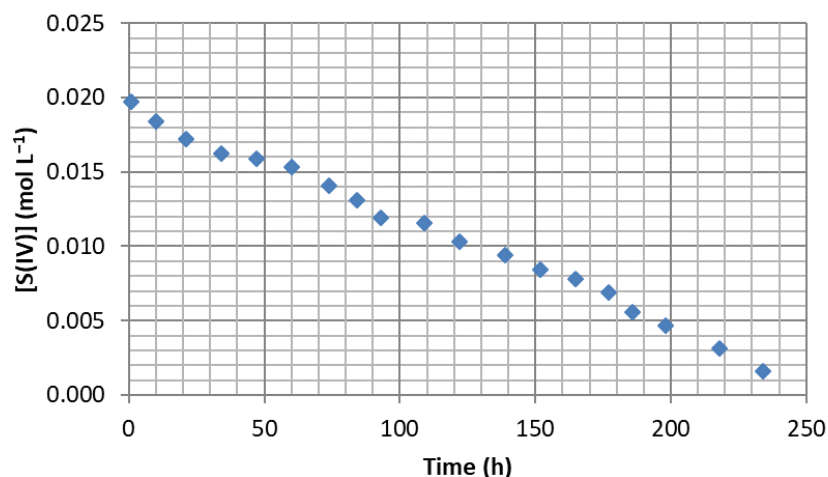

Figure 1: $[\text{S(IV)}]$ as a function of time for the fructose - glycine - sodium metabisulphite S(IV) reaction
The first experiment (A) was carried out by adding $n_{\text{Fru,A},0} = 1 \text{ mol}$ of fructose, $n_{\text{Gly,A},0} = 0.5 \text{ mol}$ of glycine and $n_{\text{S(IV),A},0} = 0.02 \text{ mol}$ of **S(IV)** at the same time to a 1 L sodium acetate/acetic acid buffer. Every 15 hours (roughly), an aliquot of 1 mL was extracted from the reactive medium, put in a cell of $l = 1 \text{ cm}$ and a drop of Ellman's reagent was added. The absorbance was measured after stirring. Results obtained from this experiment are shown in figure 1.
4. **Choose** a wavelength to measure the absorbance of the aliquots of experiment (A).
6. Using the following graph and the rate equations determined in question 2, **determine** the kinetic order α of fructose in step (1) of the mechanism. It can be equal to 0, 1 or 2.